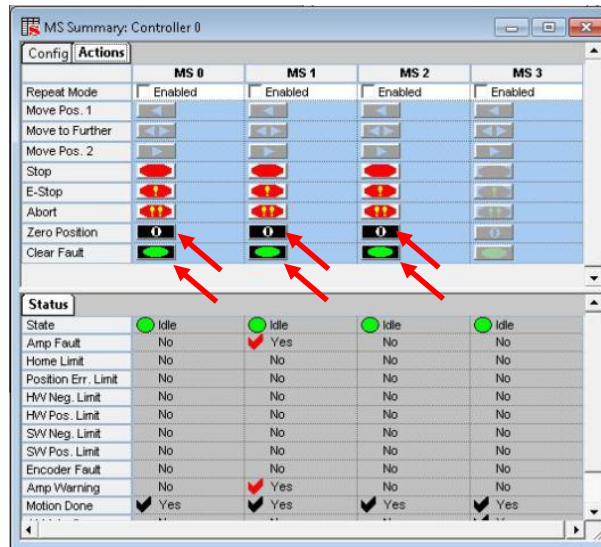
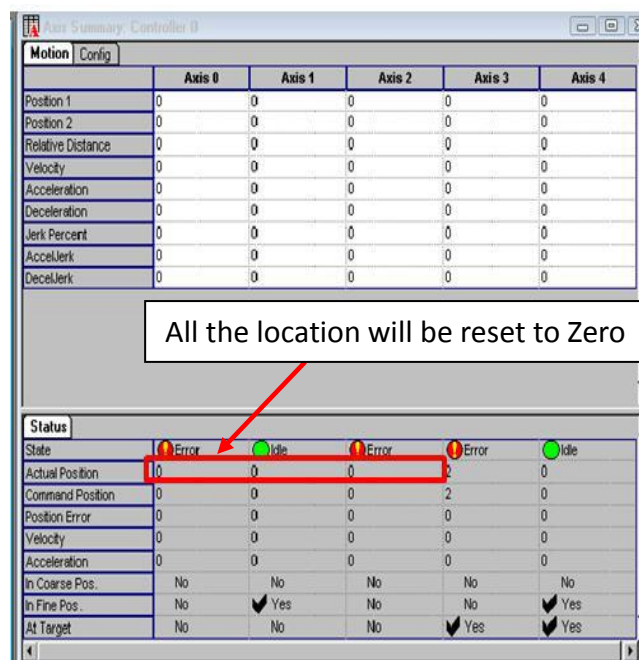

Figure 14 MS Summary (Motion Supervisor Summary)
Figure 15 Axis Summary (Actual position)
26. Reset all MS0, MS1 and MS2 at the MS Summary (Motion Supervisor Summary) as shown in Figure 14. Once performed the reset for all the axis, the actual position for MS0, MS1 and MS2 will become zero as shown in Figure 15.